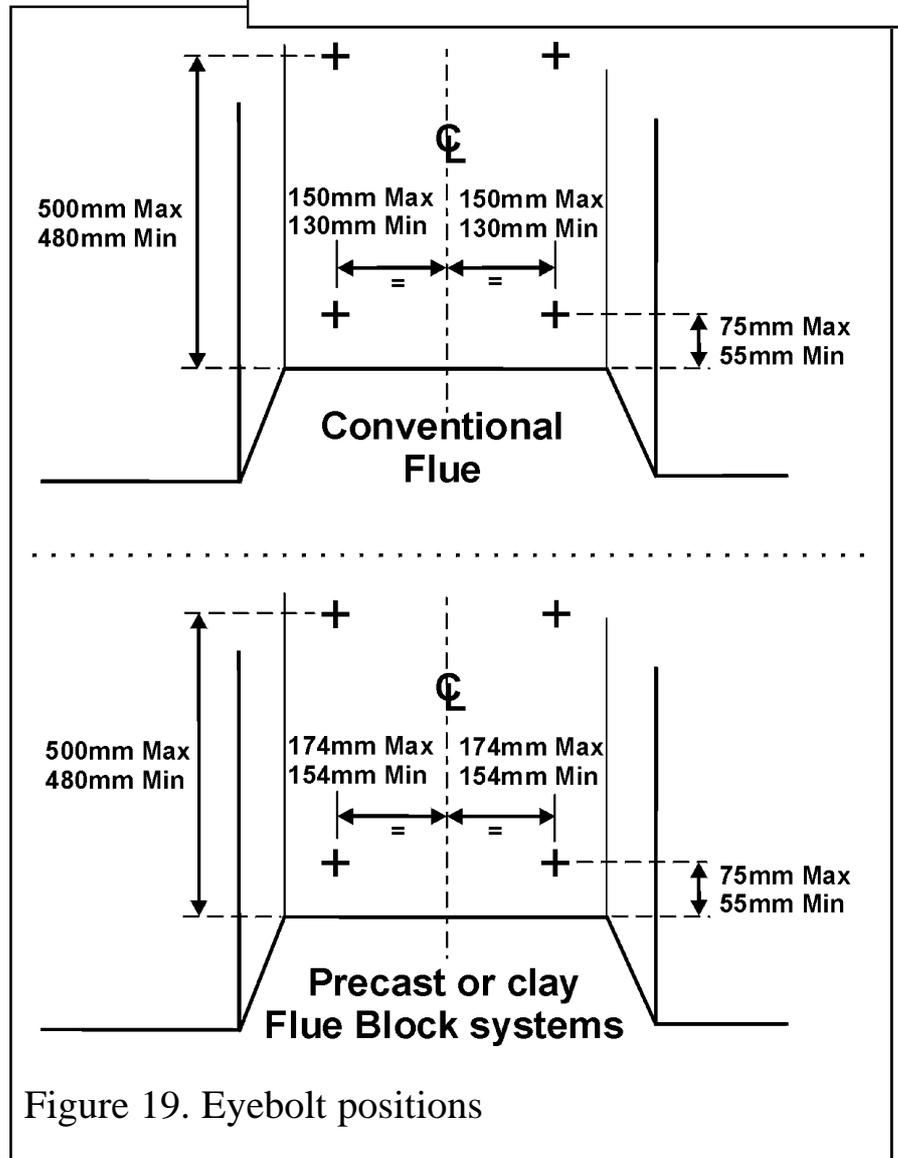

Figure 19. Eyebolt positions
2. Drill four holes in the rear wall of the fireplace for the eyebolt plugs. The holes should be drilled within the range of positions shown in figure 19 using a no.12 masonry drill. The holes should be equidistant each side of the centre line of the fireplace to ensure that the appliance finishes centrally in the opening when tension is applied to the cables.